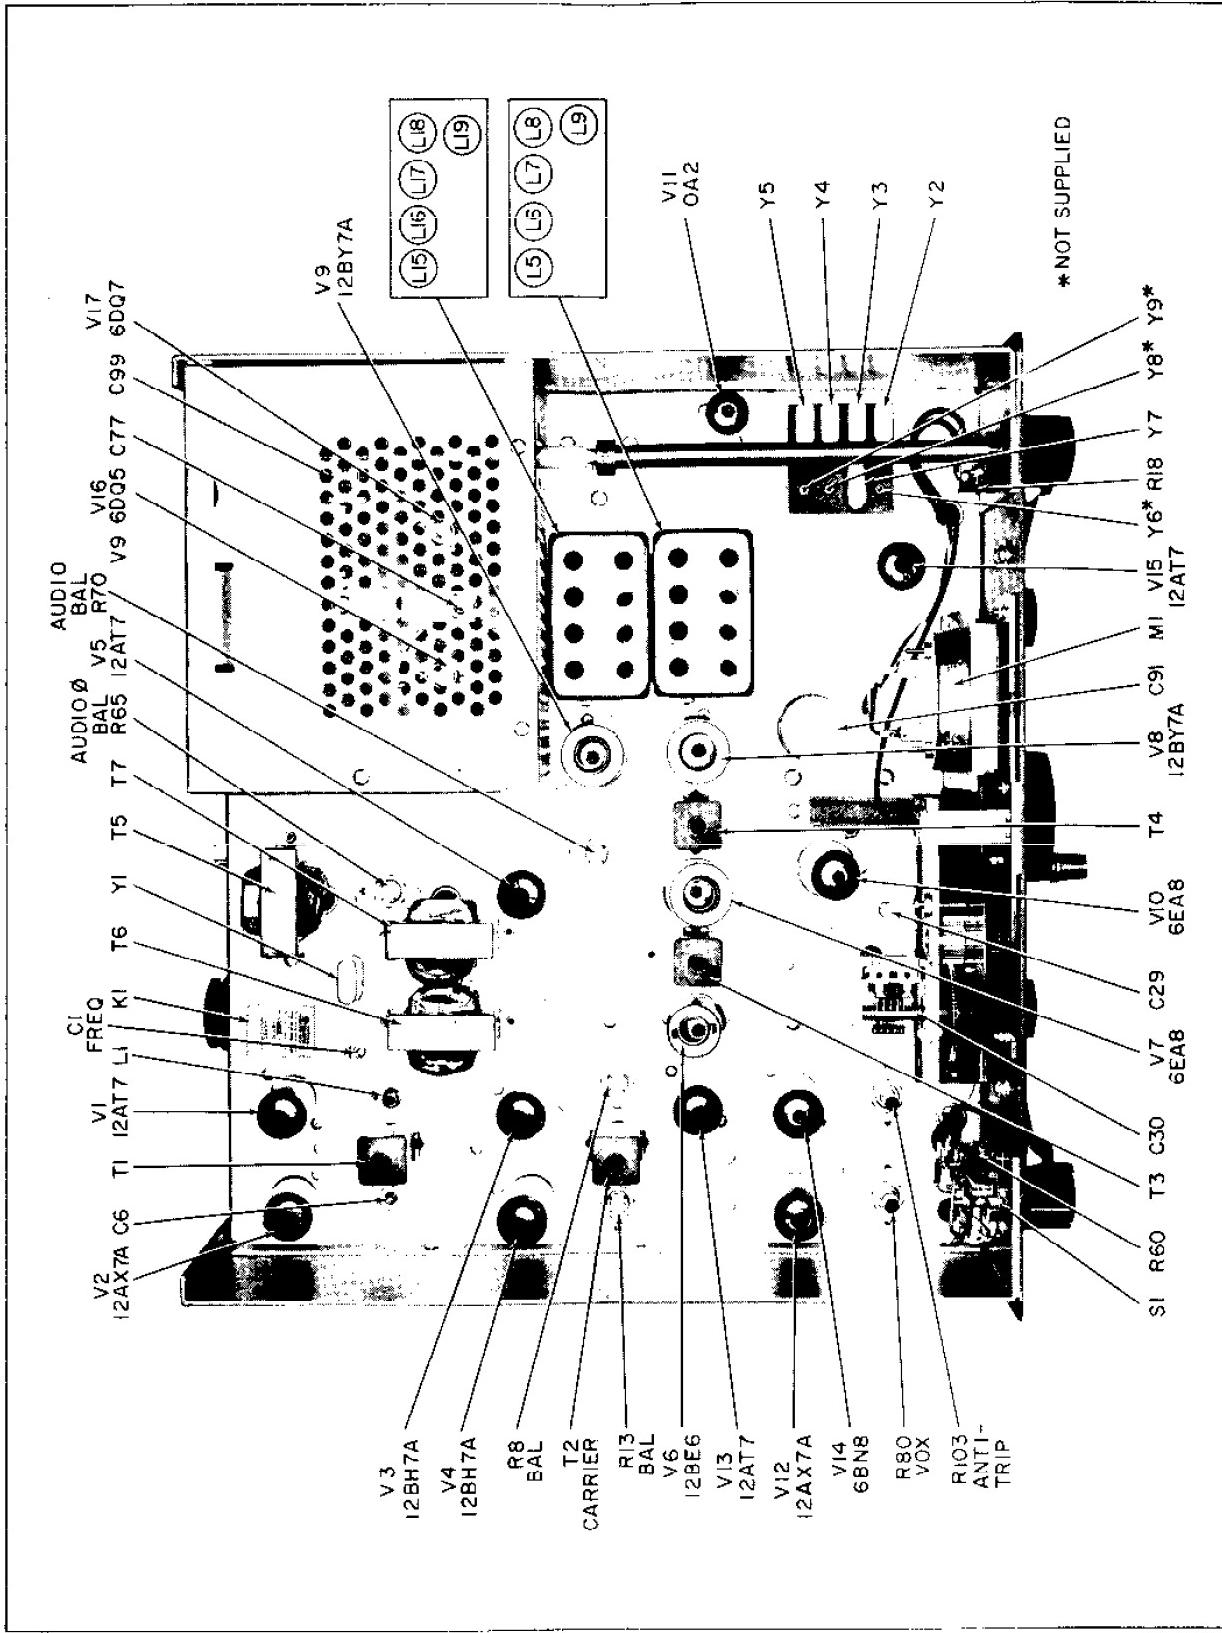
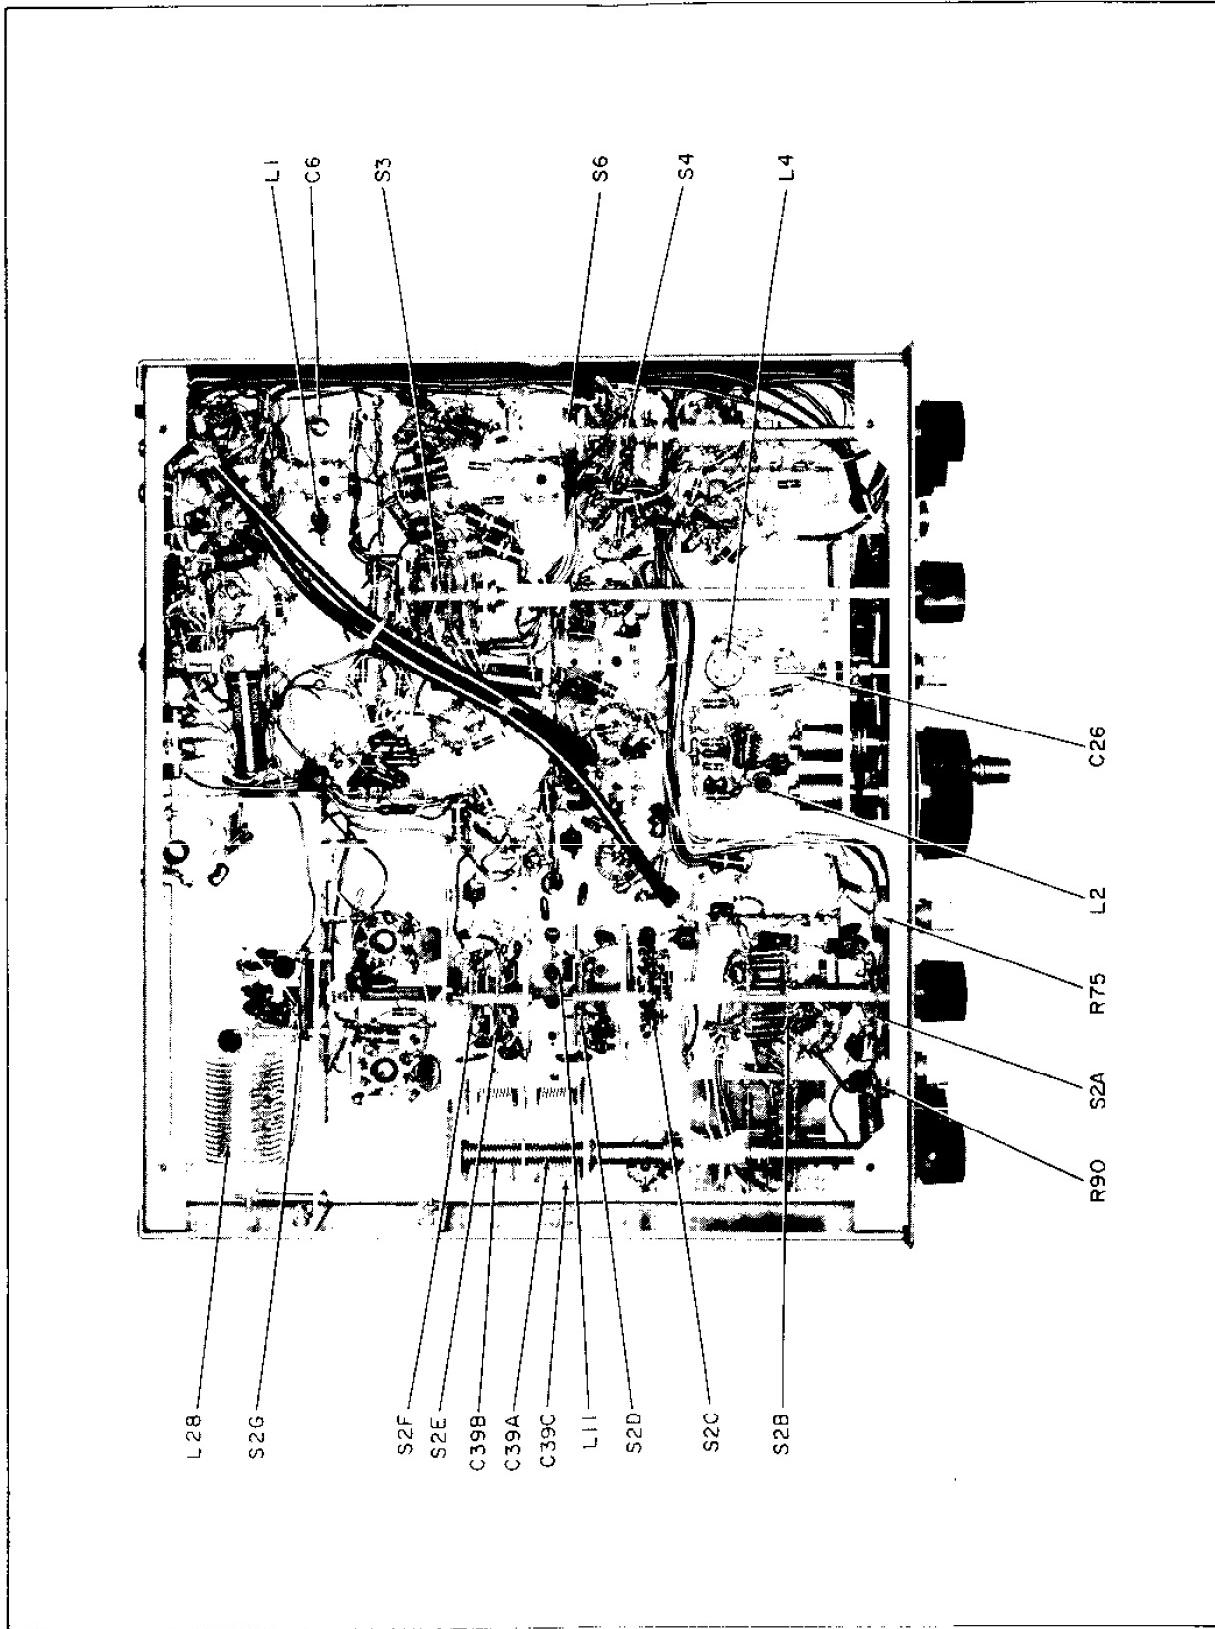

Figure 14. Top Chassis View Showing Component Locations.
Figure 15. Bottom Chassis View, Showing Components
13. Carefully adjust warping trimmer C1 in the HT-44 for zero beat. This trimmer is located near the top, left, rear corner of the chassis. (See figure 14.)
Do not make any adjustments unless the operation of this transmitter is fully understood and adequate test equipment is available. Refer to figures 14 and 15, the top and bottom views of the transmitter, for the locations of all adjustments.
3. 10-Meter Alignment. - Tune the Signal Generator to 26.0 MC. Set the FINAL TUNING control to the low end of the 10-meter segment (approximately 8 on the inner scale) and the DRIVER TUNING control also to the low end of the 10-meter segment (approximately 8 on the inner scale). Increase the signal generator output level until a small indication is noted on the HT-44 RF output meter. Tune the FINAL TUNING control for maximum output indication. Adjust the cores of coils L5 and L15 (see figure 14 for location) for maximum output, reducing the signal generator output level as required to keep the meter reading at half-scale or less. Set the signal generator to 29.7 MC. Set the FINAL TUNING control to the high end of the 10-meter segment (approximately 9-1/2 on the inner scale) and set the DRIVER TUNING control to the high end of the 10-meter segment (approximately 9-1/2 on the inner scale). Adjust trimmer capacitor (C39C) located on the side of C39A (see figure 15) for maximum output while slightly rocking the DRIVER TUNING control. Return the signal generator to 28.0 MC and repeat the above alignment until tracking is accomplished. (NOTE: Trimmer C39C should not be readjusted on the other bands.)
4. 15-Meter Alignment. - Tune the signal generator to 21.0 MC and set the FINAL TUNING control to the low end of the 15-meter segment (approximately 7-1/2 on inner scale). Set the DRIVER TUNING to the low end of the 15-meter segment (approximately 7 on the inner scale). Increase the signal generator output level until a small indication is noted on the RF output meter and adjust the FINAL TUNING control for maximum output, reducing the signal generator output level as required to keep the meter at half-scale or less. Adjust the cores of coils L6 and L16 (see figure 14 for location) for maximum output, reducing the signal generator output as required to keep the meter at half-scale or less.
7. 6.5-MC Trap Adjustment. - While on the 40-meter band, set the signal generator to 7.0 MC and adjust the FINAL TUNING and DRIVER TUNING controls for maximum output. Without changing the FINAL TUNING or DRIVER TUNING, reset the signal generator to 6.5 MC and increase the signal generator output level until a small indication is noted on the RF output meter. Adjust the 6.5-MC trap core, L11 (see figure 15 for location) for minimum output, increasing the signal generator output as required. A slight readjustment of L8 may be required after this adjustment.
Proceed as follows: Set the CAL. ADJ. trimmer to mid-range (dot up). Set the OPERATION switch to CAL. Set the BAND SELECTOR to 3.5 MC (80-meter). Tune the receiver to 3.5 MC on the 100-KC marker signal (BFO off). Set the HT-44 TUNING CONTROL (dial) to the red 500 (3.5 MC). Carefully adjust trimmer C29 for zero beat (see figure 14 for location).
If the dial error progressively increases in the same direction with the high-frequency end running out more than 3000 CPS, at this end, both L4 and C29 should be adjusted. Proceed as follows: Set the TUNING dial to 4.0 MC (red 1000) and the Receiver to 4.0 MC. Adjust the slug of L4 (see figure 15 for location) to zero beat. Set the TUNING dial to 3.5 MC (red 500), the receiver to 3.5 MC, and adjust C29 for zero beat. Repeat the adjustments at 4.0 MC and 3.5 MC until both points are on frequency.
Remove V15 (12AT7) from its socket to disable the heterodyne oscillator signal. Connect the probe of the RF voltmeter to the grid of the Second Mixer (pin 2 of V8). Set the FUNCTION switch to CW and the OPERATION switch to MOX. Set the BAND SELECTOR to any 10-meter segment. Set the TUNING control dial to 250 and advance the RF LEVEL control until a small indication is noted on the RF voltmeter. Adjust the core of the VFO output coil (L2, See figure 15) for maximum reading. Set the TUNING control to 450 on the dial. Advance the RF LEVEL control until approximately 0.5 volt RMS is indicated on the RF voltmeter (HP 410 B or equal). Adjust top and bottom cores of IF transformers T3 and T4 for maximum voltmeter indication, keeping the level below 1 volt to prevent overload and false settings. After the transformers have been adjusted as described, increase the RF LEVEL control until 1 volt is indicated on the voltmeter. Tune the VFO (TUNING) across its range (0 to 500) while watching the voltmeter. The voltmeter should read between 0.8 and 1.0 volt over the entire range of the dial (0 to 500). After completion of this alignment, be certain to replace V15 (12AT7) in its socket.
Adjust the RF LEVEL control for about 60 volts RMS output (60 on the HT-44 RF output meter). Carefully tune the FINAL TUNING control and observe the plate current dip and the output voltage peak. If both occur at the same setting, the amplifier is neutralized. If both do not occur together, adjust the neutralizing capacitor, C77 (see figure 14), in small increments (1/4 to 1/2 turn) until neutralization is accomplished.
When the HT-44 is used as an independent transmitter/exciter, there is normally no need for adjustment of the carrier frequency trimmer C1 (see figure 14 for location). However, when the HT-44 is to be used in conjunction with an SX-117 receiver as a transceiver, the carrier frequency trimmer C1 must be set correctly. For this procedure, see Section VII, TRANSCEIVE (SLAVE) OPERATION.